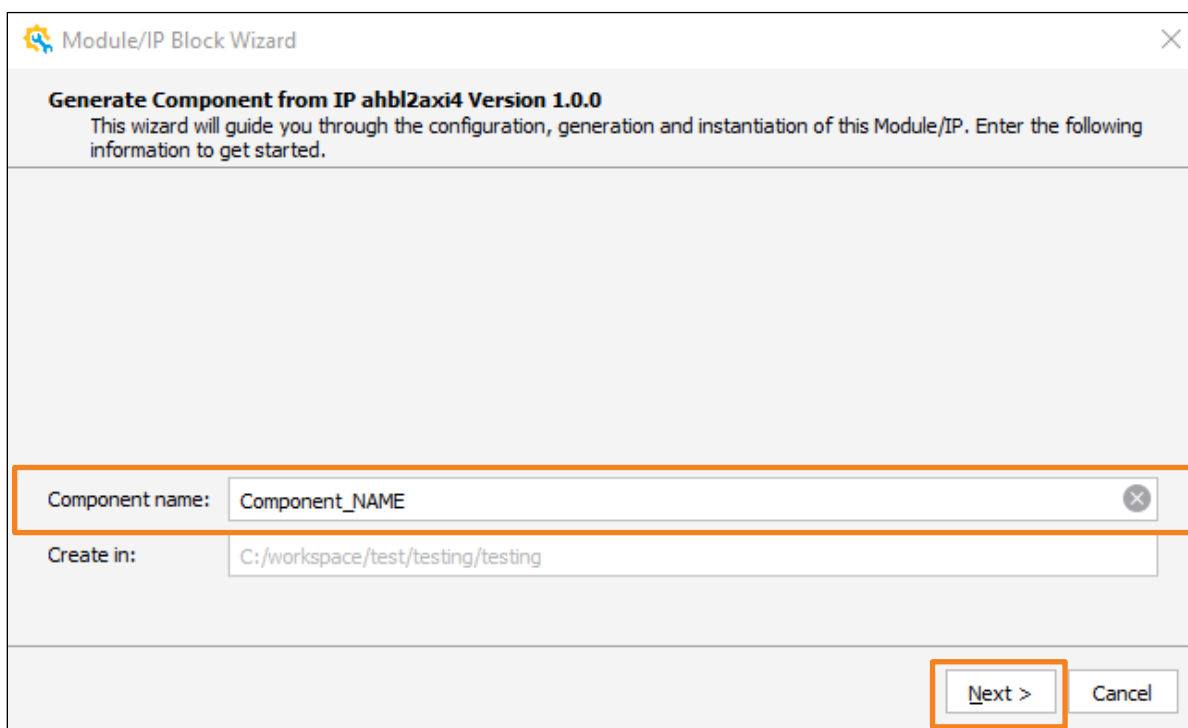

Figure 4.1. Enter Component Name
2. In the **IP Catalog** tab, double click **AHB-Lite to AXI4 Bridge** under **IP > Processors_Controllers_and_Peripherals** category. The Module/IP Block Wizard window opens as shown in Figure 4.1. Enter your desired component name in the **Component Name** field then click **Next**.